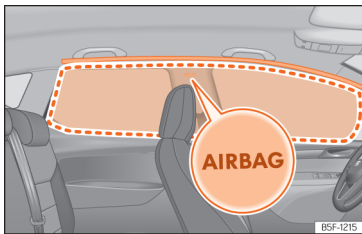

Fig. 30 Location and deployment area of the head-protection airbag.
Head-protection airbags are on both sides of the passenger compartment, above the doors >>> **Fig. 30** and their location is indicated with the word "AIRBAG".
The framed area is covered by the head-protection airbag when it is deployed (deployment area) >>> **Fig. 30**. Therefore, objects should never be placed or mounted in this area >>> **△**.
- Ensure that children are correctly seated in their seats and that their heads are not in the deployment zone of the head airbags >>> **Fig. 30**, as deploying airbags could hit them and cause serious injury.